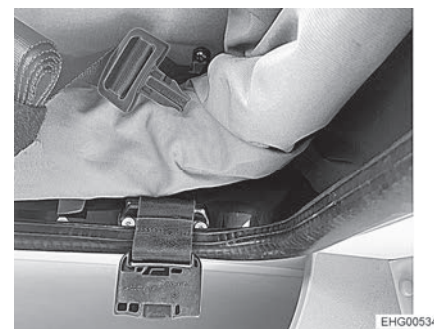

Fig. 98 Belt lock, open
- Close and tighten both belt locks (Fig. 98).